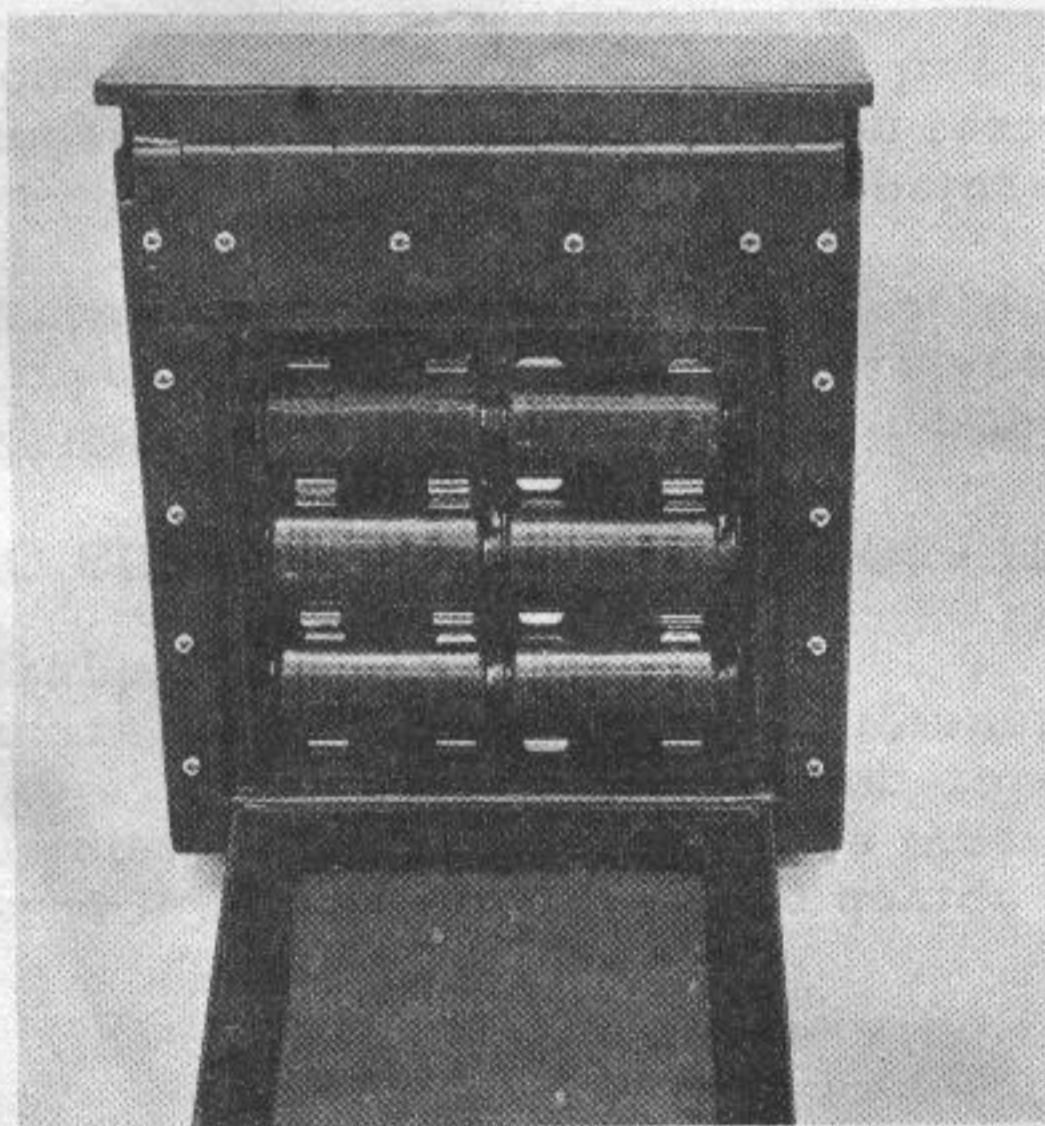

Figure 8. Battery Location
1.5.2.2 Batteries. Batteries are not shipped installed in the battery case, as batteries may deteriorate under extreme storage conditions. Batteries should be relatively fresh for best performance. For installation, see subsection 3.5.1 (Figure 8).
The control set is powered by six 1.5 v-dc, Type BA-30 or equivalent batteries (Figure 8). This is the only power requirement for the system. New batteries should have a usable life of about 3 months of continuous duty.